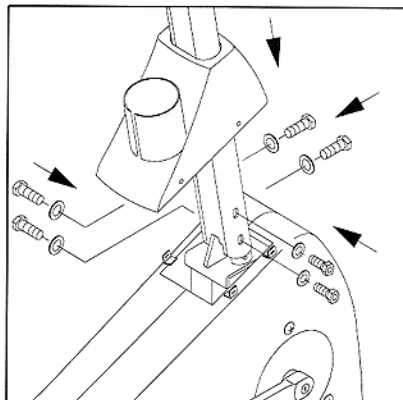

Fig.2
4. Use 6 pcs 5/16" bolts, and washers to secure the upright post (see Fig. 2).